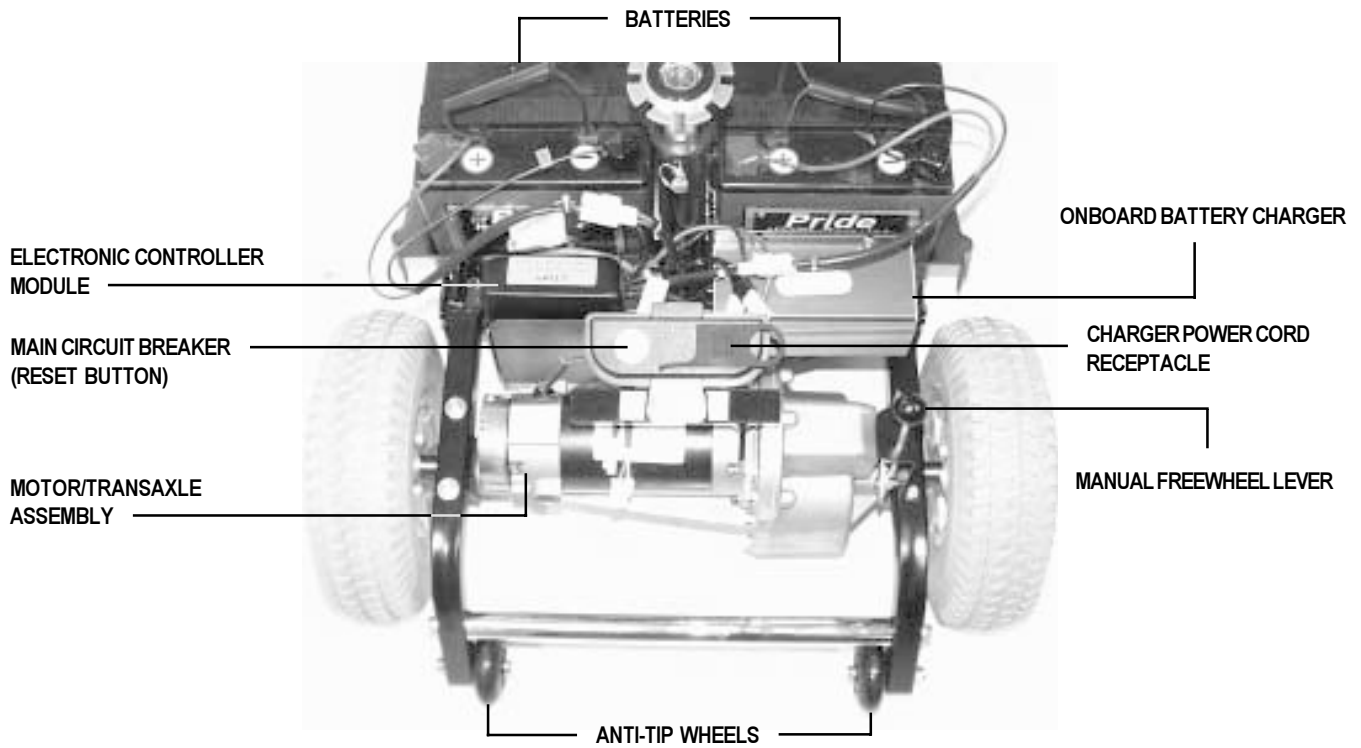

Figure 12. Victory 3 and 4 Wheel Rear Section
The electronic controller module, charger power cord receptacle, main circuit breaker, motor/transaxle assembly, manual freewheel lever, batteries, and anti-tip wheels are located on the rear section of your Scooter. See figures 12 and 13.
- The main circuit breaker reset button is mounted on the upper rear section of your Scooter, near the charger power cord receptacle. See figures 12 and 13.